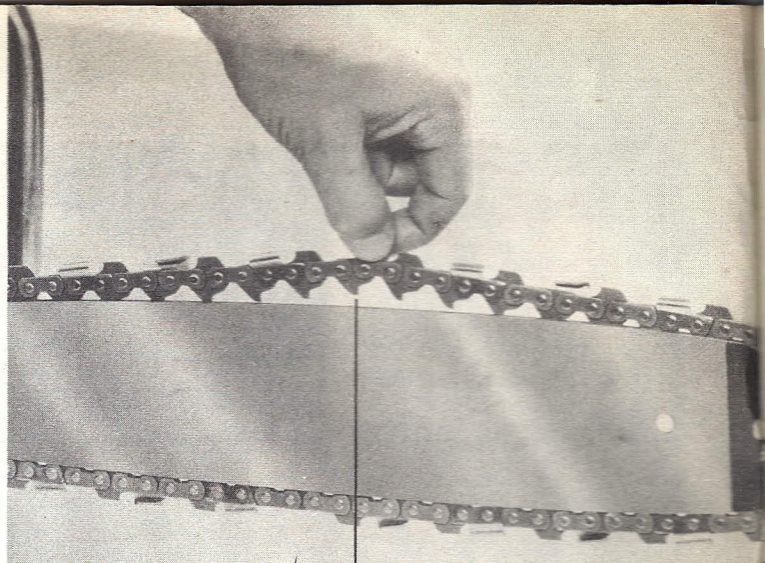

Fig. 2 $\frac{1}{2}$ " clearance
3. The chain should be properly tightened with the tension screw, then hexagonal nuts secured. Proper tension is as illustrated. (Fig. 2.)